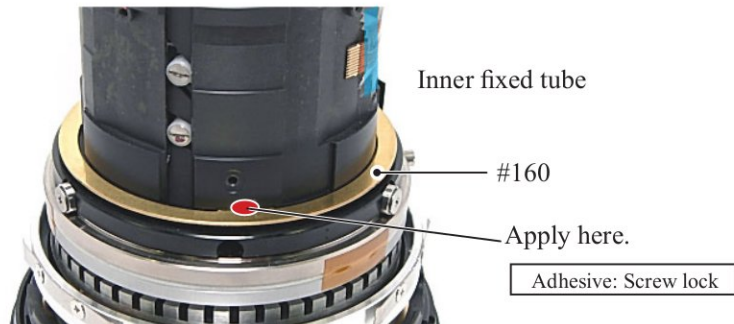

Fig.1
- Fit the convex portion of the washer (#160) with the grooved guide track of the inner fixed tube, and put the washer. (Fig.1)
- Apply the screw lock to the engaged areas of the inner fixed tube and the washers (#160) (in numeric order from "Fig.1" to "Fig.3".)